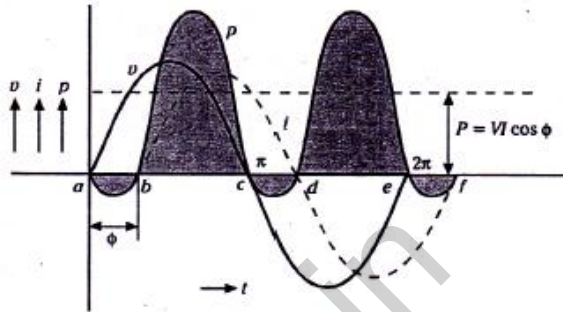

Fig. 3.48
The power consumed can be represented by means of waveform in Fig. 3.48.
**Power curves:** The power curve for R-L series circuit is shown in Fig. 3.48. The curve indicates that the greater part is positive and the smaller part is negative, so that the net power over the cycle is positive.